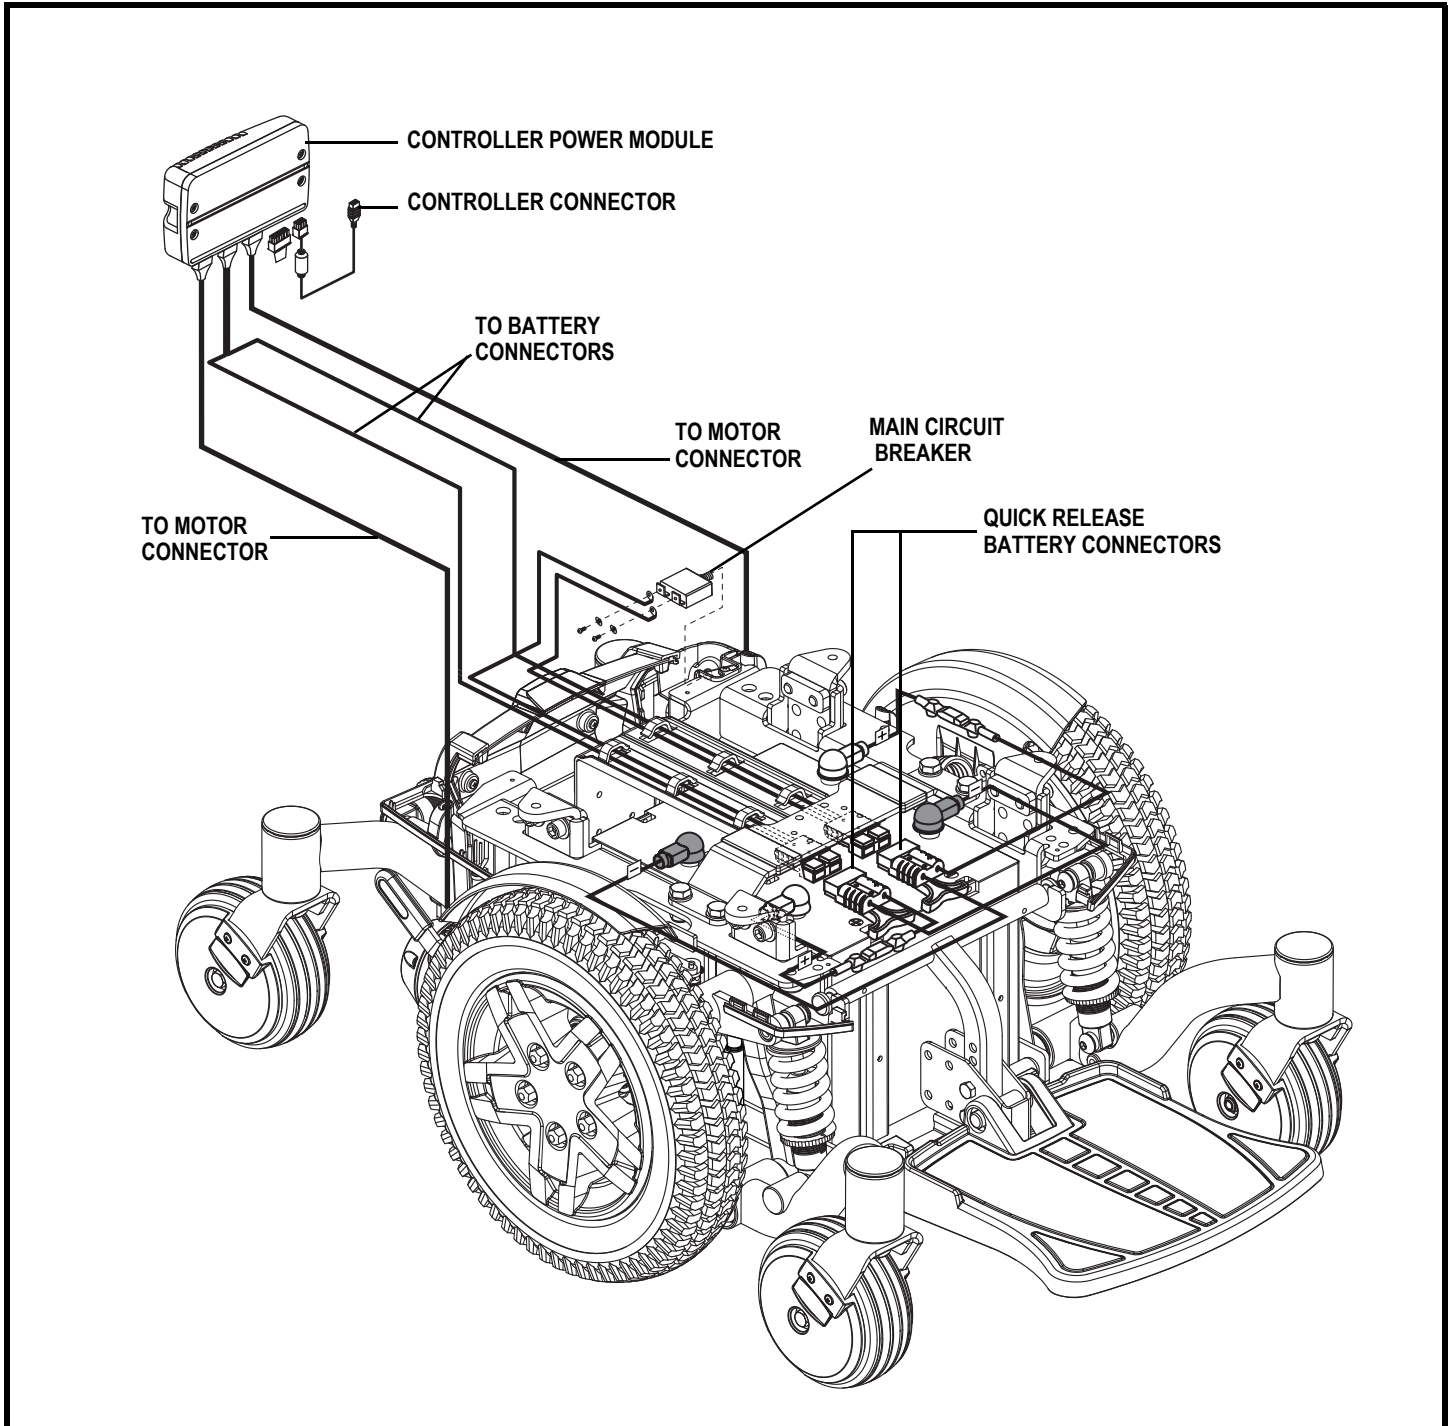

Figure 7. Q6 Edge Electrical Components
The electrical components consist of the controller assembly, the batteries, and the motors. The batteries, motors, and controller power module (if equipped) are located on the power base assembly. The controller is located on the seat assembly. Connectivity between the controller and the motors, batteries, and the battery charger is provided by one or more wiring harnesses. **See figure 7.**
5. Plug the controller connector into the rear of the power base. See figure 7.
3. Unplug the controller connector(s) from the power base. See figure 7.